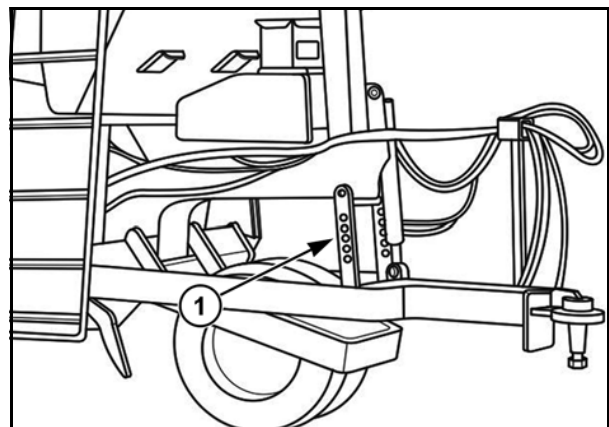

FIG. 56
The tow adjustment defines the desired depth in the work for the furrower nozzle. The adjustment is defined in the scaled bar (1). (Fig. 56)